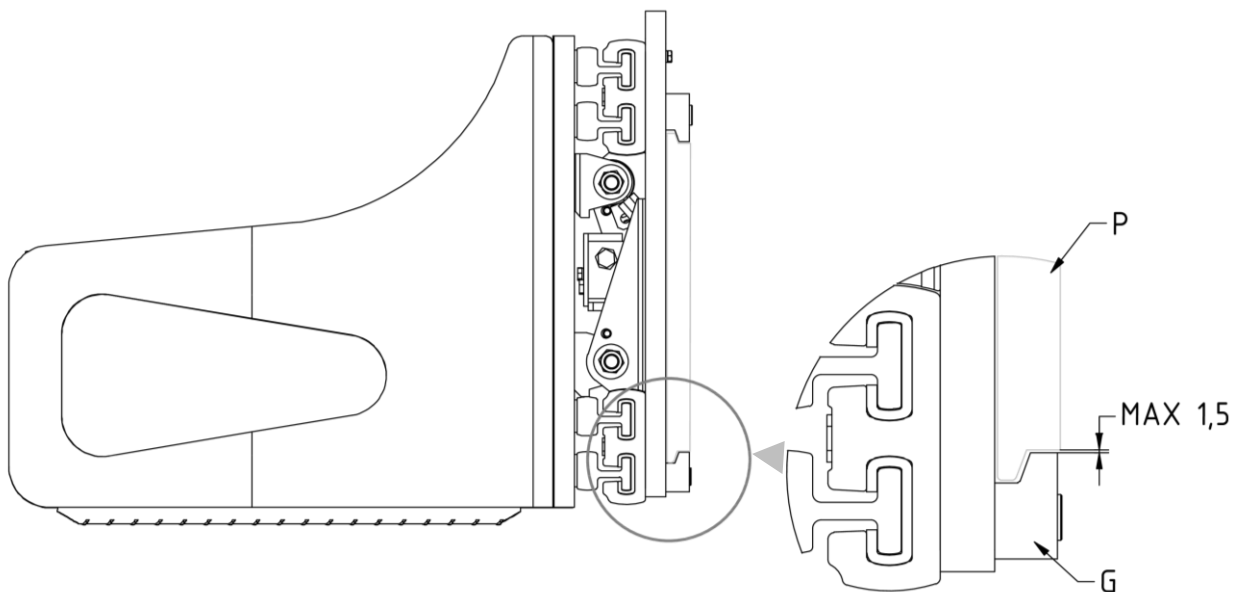

Figure 4
7. Screw on the 2 lower couplings G in such a way that their bodies also remains coupled to the lower part of the fork carriage P (with max. clearance of 1.5 mm, see detail *Figure 4*), tightening with the torque indicated in *Table 3*.